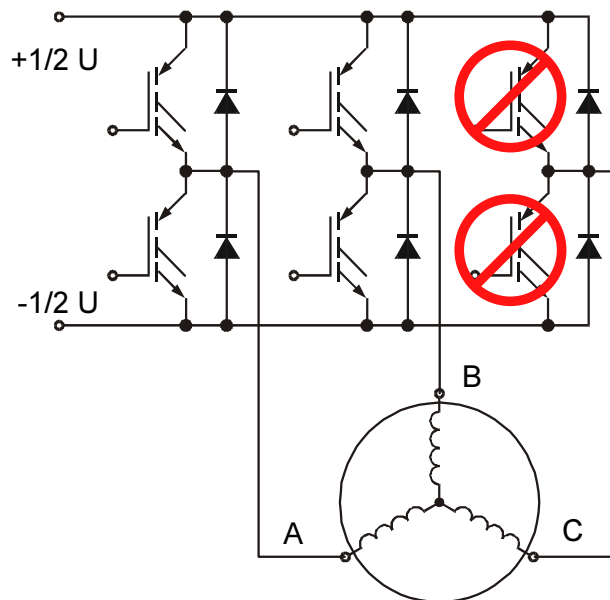

Figure 5-5. BLDC Motor 3-ph Power Stage
- **commutation** - so called six-step control, which sequentially deactivates one motor phases as indicated in Figure 5-5 The power stage topology then changes to “full bridge” shown in Figure 3-4